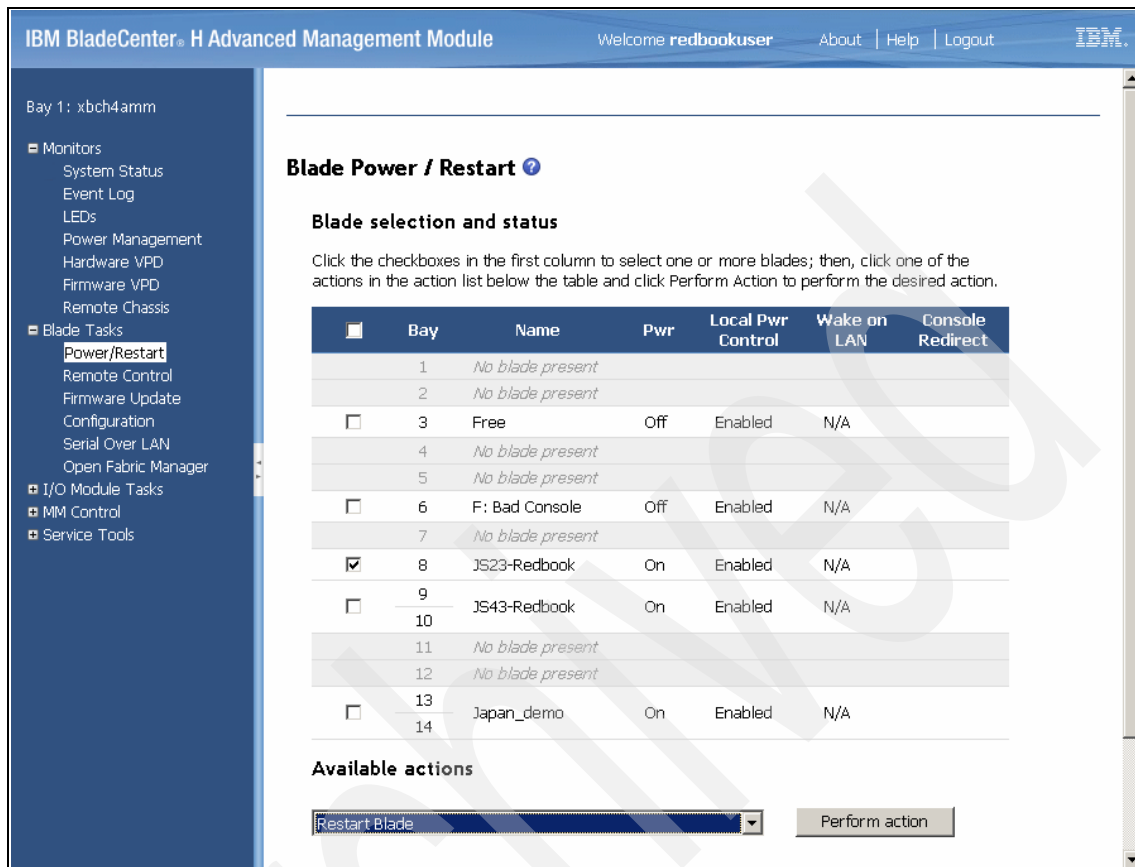

Figure 12-3 Blade Power / Restart
5. Restart the blade server by selecting **Blade Tasks** → **Power/Restart**. Select a BladeCenter server from the list, then select **Restart Blade** from the Available actions drop-down menu. Finally, click **Perform Action**. Figure 12-3 on page 458 shows the Blade Power/Restart panel.